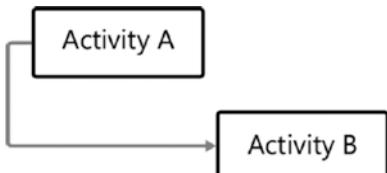

Figure 4-5. Start-to-start relationship
- *Start-to-start (SS)*: The successor activity cannot start until the predecessor activity starts. For example, you cannot begin testing a new piece of software until you have started writing the code. Figure 4-5 depicts how this can be represented diagrammatically.